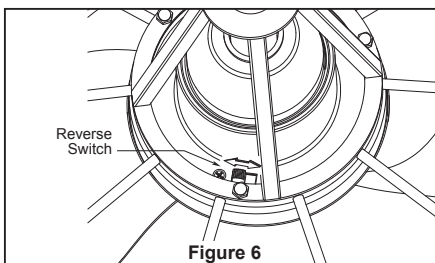

Figure 6
- ☐ 6. If airflow is desired in the opposite direction, turn the fan off and wait for the blades to stop turning. Slide the reverse switch on the motor assembly to the opposite position and turn fan on again. (Figure 6)